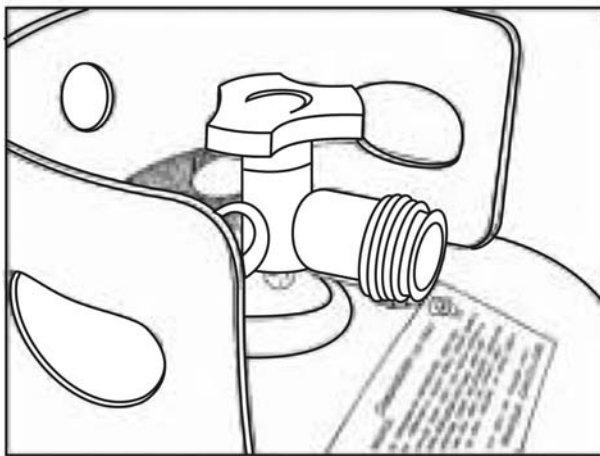

Figure 1
- 1 Assemble furniture on a smooth, non-abrasive surface. Attach the back frame to right arm by using two 5/16"x40 mm bolts and washers as shown in **Fig.1**. Guide the bolts through holes in back frame, into pre-drilled holes in the right arm. **Hand tighten only**. Attach the seat frame to right arm and back frame by using four 5/16"x25 mm bolts and washers as shown in **Fig.2**. **Hand tighten only**. Attach the left arm to back and seat frame by using two 5/16"x25 mm bolts and two 5/16"x40 mm bolts and four washers as shown in **Fig.3**. **Hand tighten only**.
A self contained LP-gas cylinder for use with this appliance must have a capacity of 20 lbs. and must be equipped with a Type 1 connector and an OPD (overfill protection device). See Figure 1.